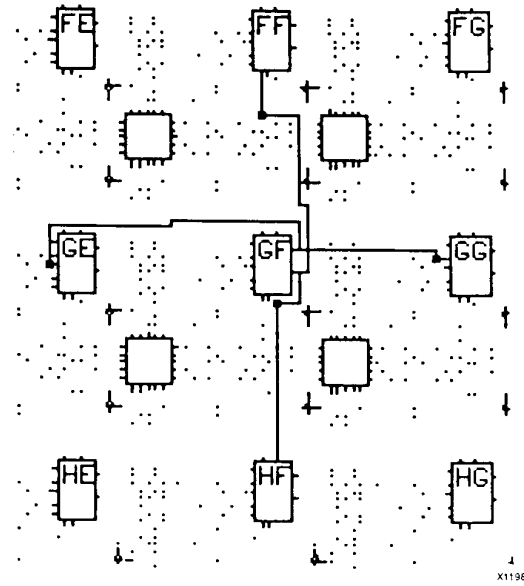

Figure 12: CLB X and Y Outputs.
Direct interconnect, shown in Figure 12, provides the most efficient implementation of networks between adjacent CLBs or I/O Blocks. Signals routed from block to block using the direct interconnect exhibit minimum interconnect propagation and use no general interconnect resources. For each CLB, the X output may be connected directly to the B input of the CLB immediately to its right and to the C input of the CLB to its left. The Y output can use direct interconnect to drive the D input of the block immediately above and the A input of the block below. Direct interconnect should be used to maximize the speed of high-performance portions of logic. Where logic blocks are adjacent to IOBs, direct connect is provided alternately to the IOB inputs (I) and outputs (O) on all four edges of the die. The right edge provides additional direct connects from CLB outputs to adjacent IOBs. Direct interconnections of IOBs with CLBs are shown in Figure 13.